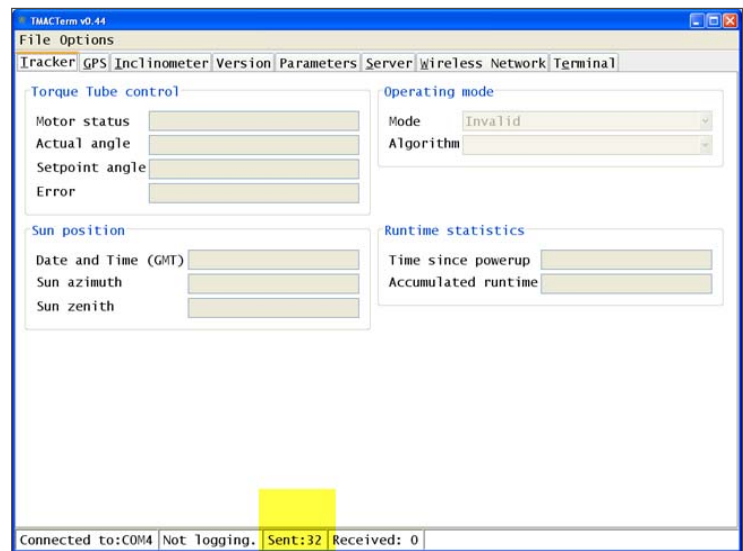

Fig. 23
12. The DTMAC term main screen appears with a dialog box that says '*Unable to establish communication with DTMAC*'. Disregard the message and click the *OK* button. Note that the only activity present is the *Sent* counter at the bottom of the window (Fig. 23).